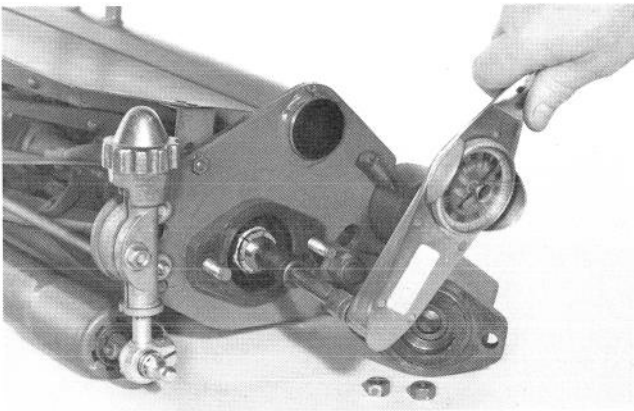

Figure 14
4. Reinstall bolt into end of the reel shaft and check the torque with an inch/pound (N·m) torque wrench (Fig. 14).